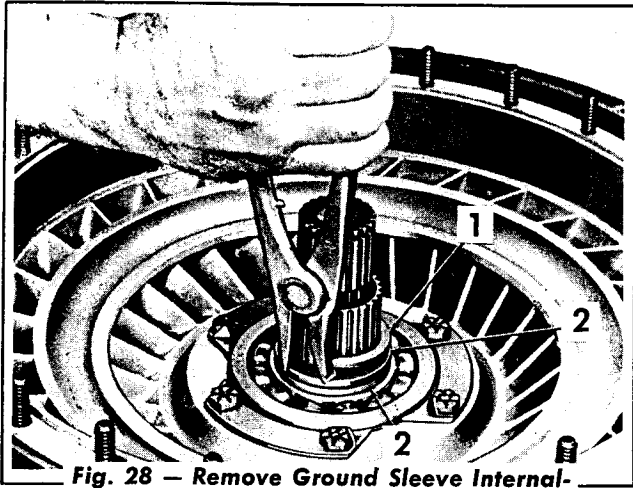

Fig. 28 — Remove Ground Sleeve Internal-Splined Spacers
12. Using snap ring pliers, remove the snap ring (Fig. 28) from the converter ground sleeve. Remove the two internal-splined spacers.